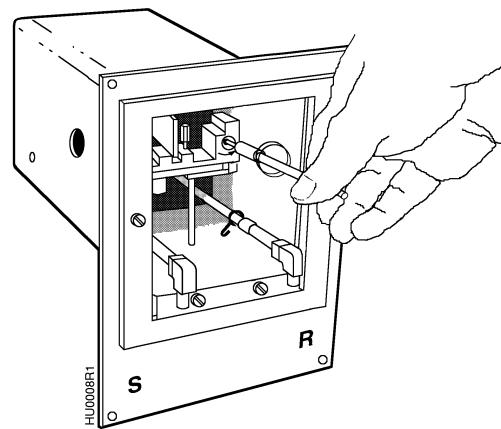

Figure 6. Hygrostat Calibration.
3. Remove cap plug on duct cover and insert calibration tool to make adjustments given in Step 4 above. See Figure 6.